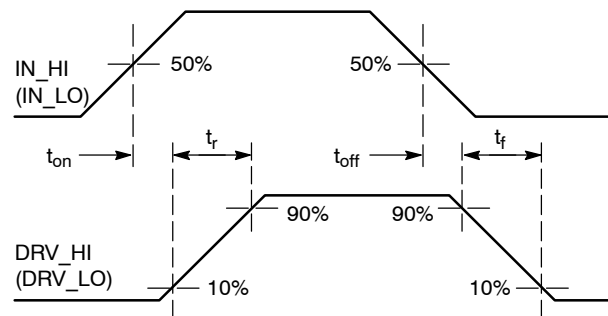
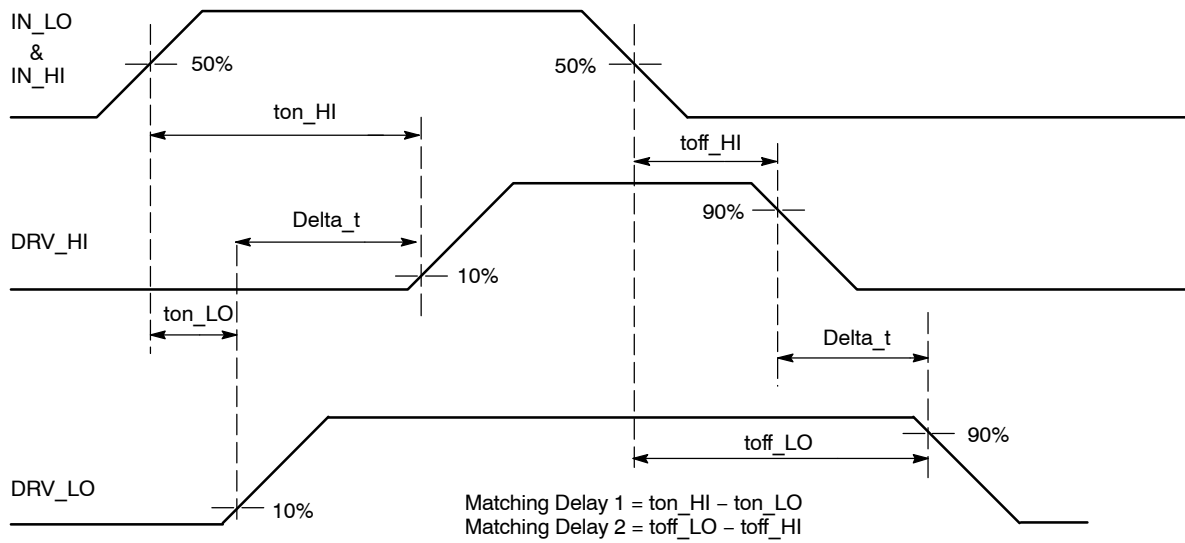
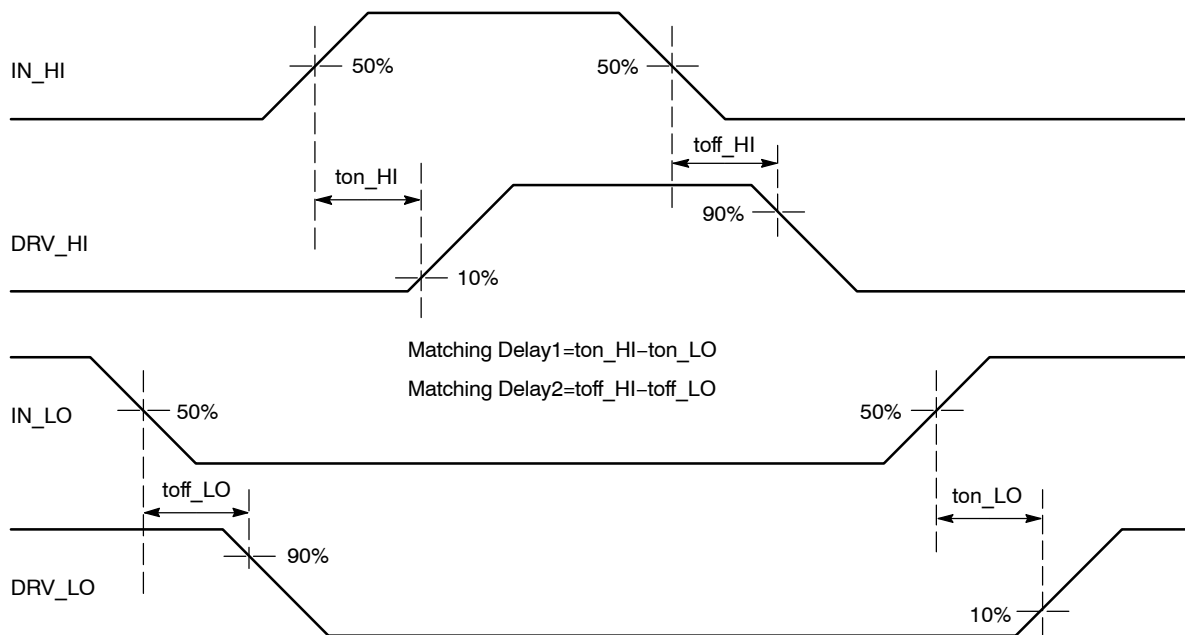

Figure 7. Propagation Delay and Rise / Fall Time Definition
Figure 8. Matching Propagation Delay (A Version)
Figure 9. Matching Propagation Delay (B Version)
5. Timing diagram definition see: Figure 7, Figure 8 and Figure 9.